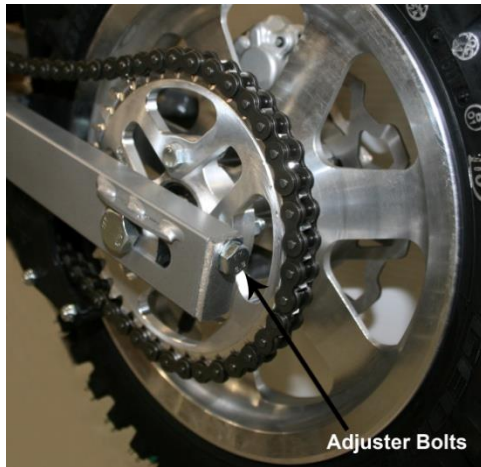

Figure 3
3. If the chain requires adjusting, loosen the axle with a 19 mm wrench and tighten the chain by rotating the adjuster bolts clockwise (CW) or loosen the chain by rotating the adjuster bolts (CCW).
5. Retighten the adjuster bolt (figure 3)